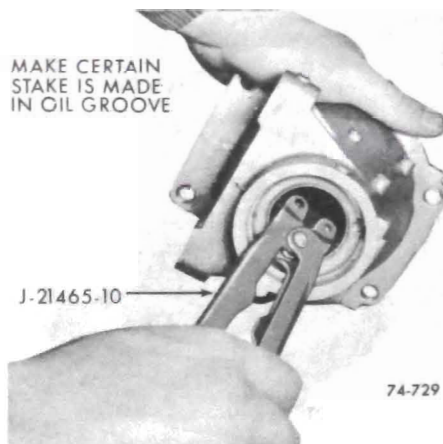

Figure 76-731
c. Using J-21465-10, stake bushing in oil ring groove. See Figure 76-731.
J-21465-10, stake bushing in oil grooves. See Figure 76-731.